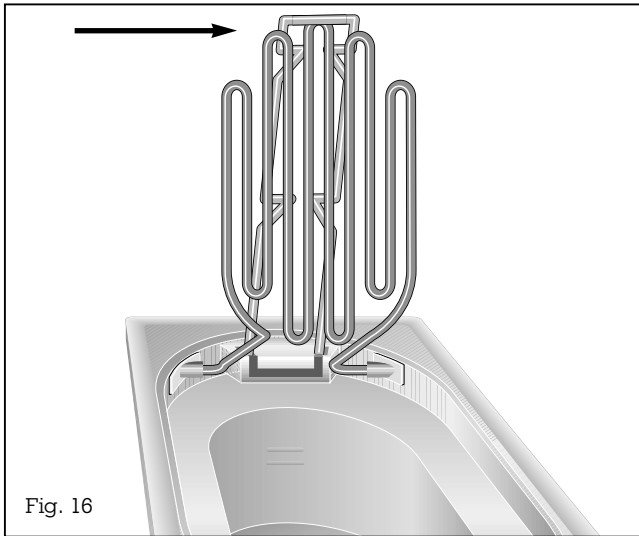

Fig. 16
- **Take out** the deep frying basket and tilt up the heating element. Clamp the heating element onto the deep frying basket suspension (Fig. 16).